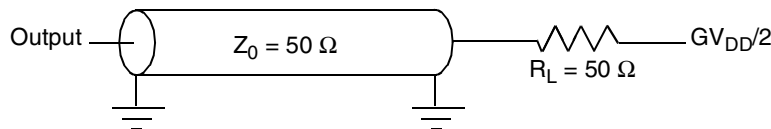
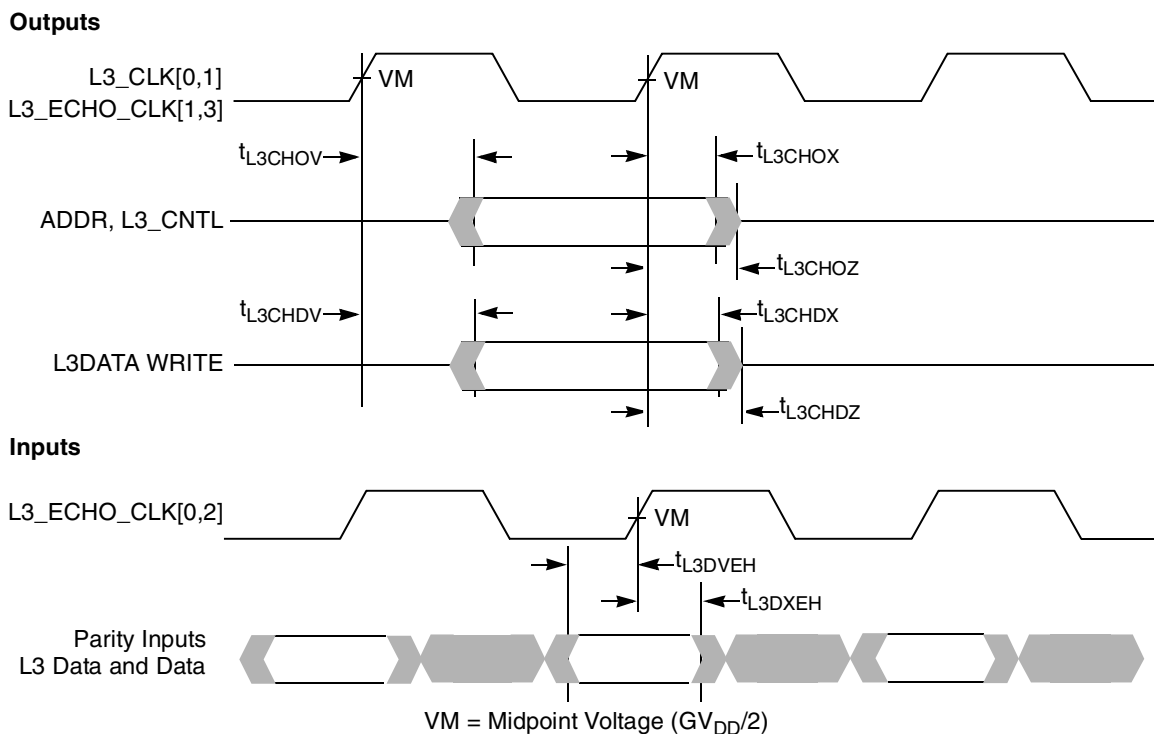

Figure 8. AC Test Load for the L3 Interface
Figure 12. L3 Bus Timing Diagrams for Late Write or PB2 SRAMs
- For high speed operations, L3 interface address and control signals should be a ‘T’ with minimal stubs to the two loads; data and clock signals should be point-to-point to their single load. Figure 8 shows the AC test load for the L3 interface.
Table 12 provides the L3 bus interface AC timing specifications for the configuration as shown in Figure 9, assuming the timing relationships shown in Figure 10 and the loading shown in Figure 8.
5. All output specifications are measured from the midpoint voltage of the rising (or for DDR write data, also the falling) edge of L3_CLK to the midpoint of the signal in question. The output timings are measured at the pins. All output timings assume a purely resistive 50- Ω load (see Figure 8).
Table 13 provides the L3 bus interface AC timing specifications for the configuration shown in Figure 11, assuming the timing relationships of Figure 12 and the loading of Figure 8.
Figure 12 shows the L3 bus timing diagrams for the MPC7455 interfaced to PB2 or late write SRAMs.